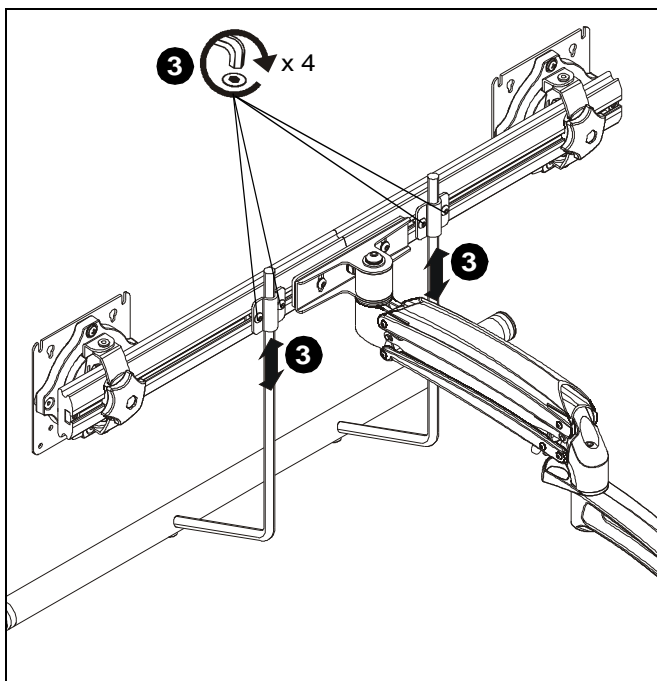

Figure 8
3. Position handle (J2) at desired height and secure by tightening button head cap screws attaching handle brackets to array. (See Figure 8)